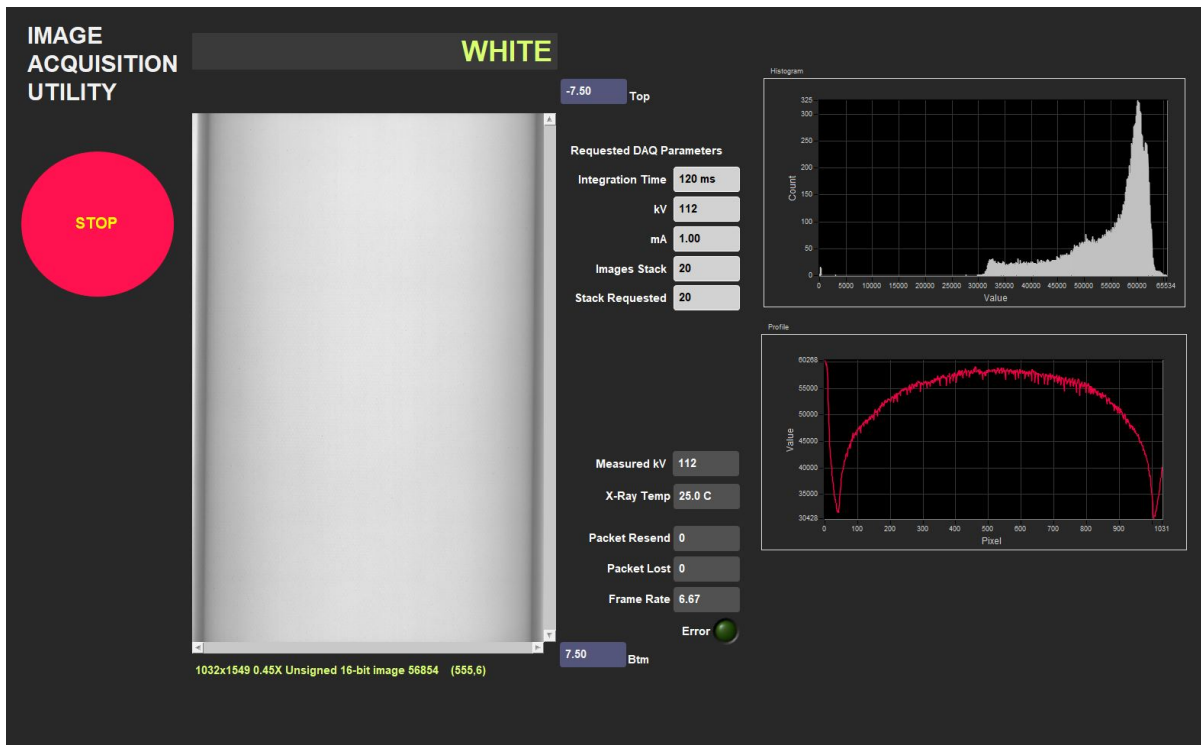

Figure 25- White Image Acquisition Window
- a. The **X-Ray Image Acquisition** window will open (**Figure 25**).